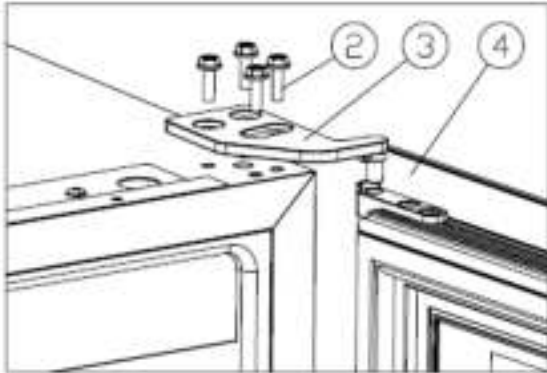

Figure 1
- ✧ Unscrew the M5\*16screws②, dismantle the right upper hinge ③, and remove the door.[Figure 1].